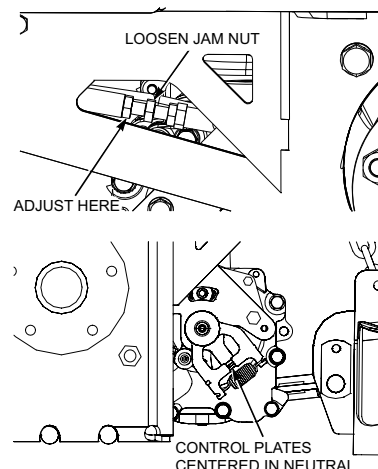

Figure 6-2. Steering Control Linkage Adjustment
6. To adjust the RH side, make sure the control levers are in the neutral lock position. Then remove the wheel, loosen the jam nut on the control arm, and adjust the control rod until the control plates on the transaxle are centered in neutral. See Figure 6-2.
7. Tighten the jam nuts and repeat for the LH wheel. See Figure 6-2.